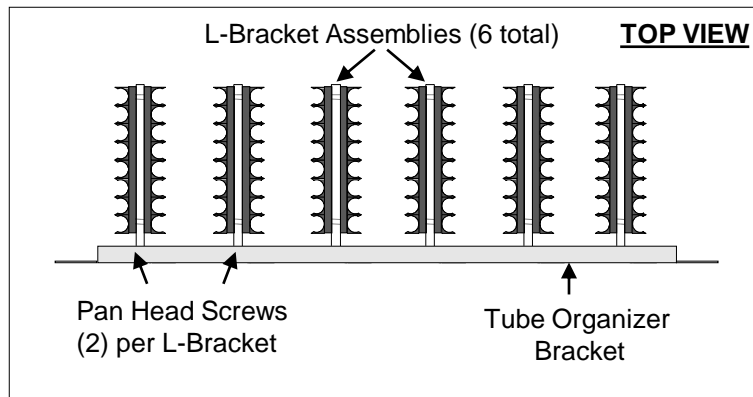

Figure 5
7.2 Attach assembled L-Bracket Assemblies to Tube Organizer Bracket using pan head screws provided; two (2) per bracket. **See Fig. 5.**